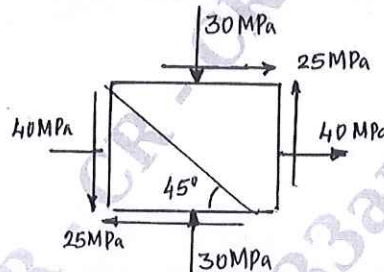

Fig. Q1 (c)
- c. A point in a structural member is subjected to plane stress as shown in Fig. Q1 (c). Determine the following : (10 Marks)